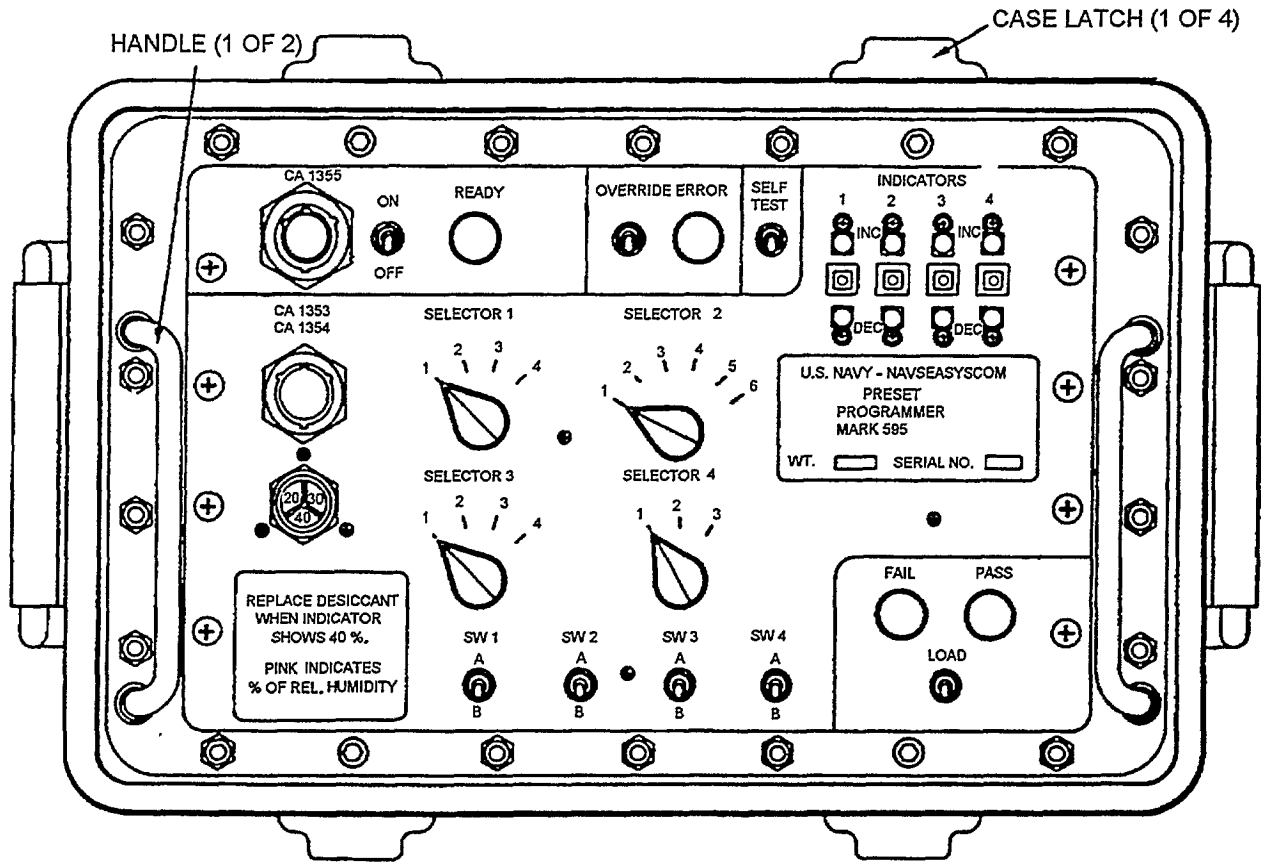

Figure D-1. Test Set Mk 595 Mod 0 or 1, Preset Programmer Section
1. The preset programmer section (Figure D-1) Self Test is performed upon receipt of the test set, upon removal from storage and at the beginning of each day of use. The purpose is to ensure that the test set meets general requirements for conducting Class C testing of Mod 0 configurations of the Mk 62, Mk 63, Underwater Mines. If deficiencies in test set operation are experienced, tag the test set defective and set aside for maintenance repair.